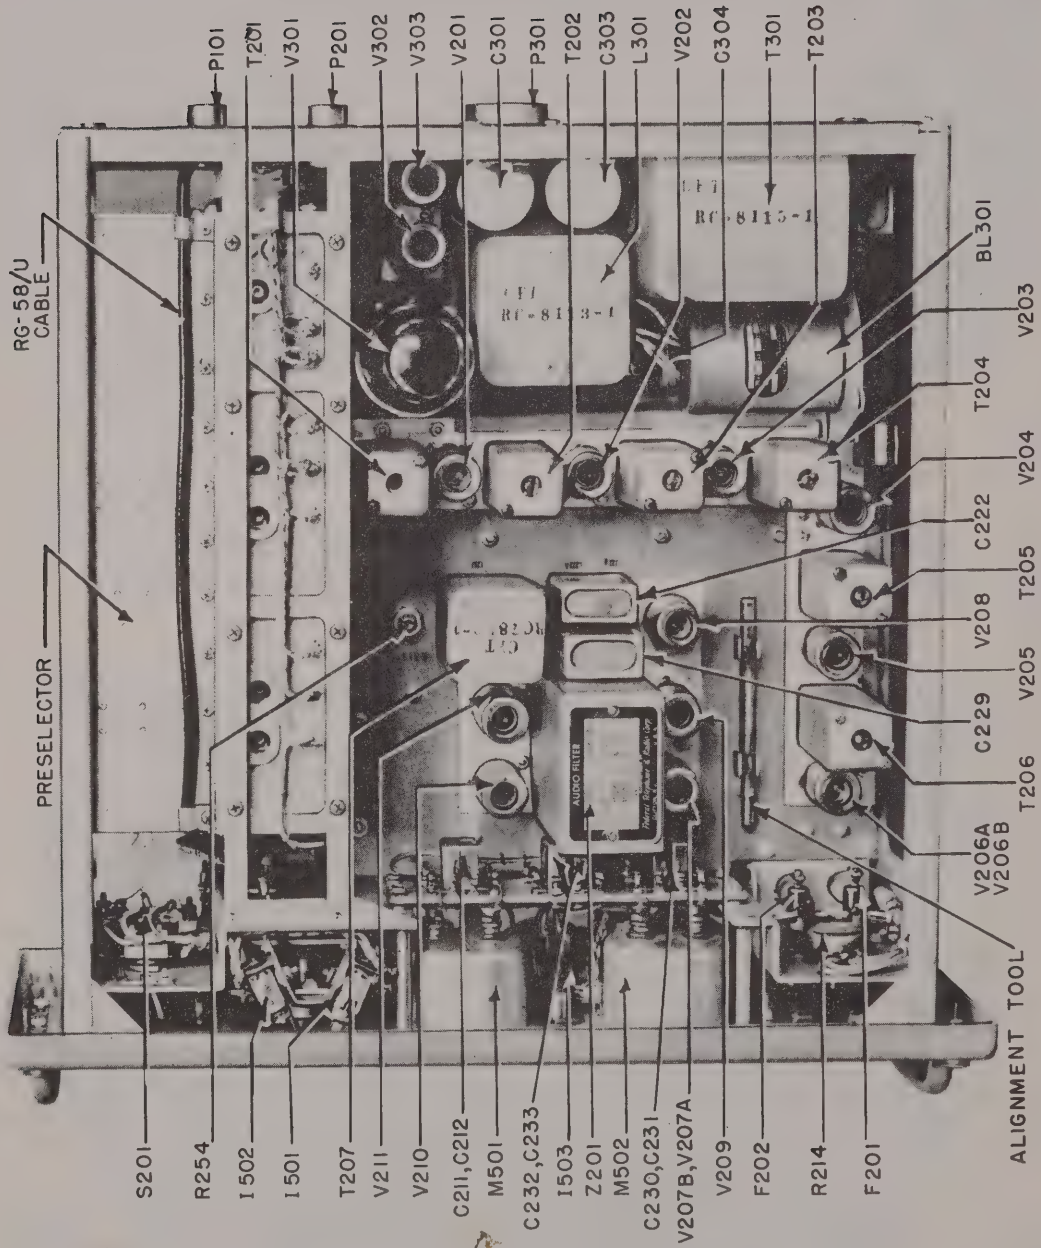

Figure 1-4. Top View of Chassis
b. FRONT PANEL AND CHASSIS FRAME ASSEMBLY.—An aluminum frame, attached to the front panel, mounts the preselector, IF/AF and power supply chassis to form a complete chassis assembly. See figure 1-4. The panel is finished in a gray enamel which blends with the color of the cabinet and is fitted with handles to permit withdrawal of the panel-and-chassis assembly from the cabinet. A spring stop mechanism on each side permits nearly complete with-
c. PRESELECTOR SECTION.—The preselector section is mounted along the left side of the chassis frame, as shown in figures 1-4 and 1-5, and comprises all parts of the r-f amplifier-converter and oscillator-multiplier sections. The r-f amplifier section is above the oscillator-multiplier section, and each consists of an aluminum casting with removable covers. The two r-f amplifier stages and the mixer, or first detector, are mounted in the r-f amplifier-converter section. The basic oscillator, two frequency-doubler stages and a frequency-tripler stage are mounted in the oscillator-multiplier section. Partitions in the castings provide r-f shielding between stages.
e. THE IF/AF SECTION.—The IF/AF section of the chassis is shown in figures 1-4, 2-6A and 2-6B. It is located on the right-hand side of the chassis frame, and mounts the circuit parts of the five i-f stages, the second detector, the automatic volume control circuit (AVC), the silencer and the silencer amplifier circuits, the noise limiter circuit and the three stages of audio amplification.
f. POWER SUPPLY SECTION.—The power supply section of the chassis, shown in figures 1-4 and 2-14, is mounted at the rear of the IF/AF section. It includes all the circuit parts necessary to provide the a-c and d-c voltages required for operation of the equipment from a source of 110/115/120 volt, 50-60 cps, single-phase power.